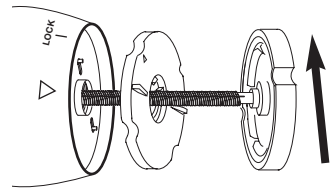

Figure 3
3. Fit the Shaft all the way inside the unit, the outside contours of the 2 Discs will line up. (See Figure 3.)